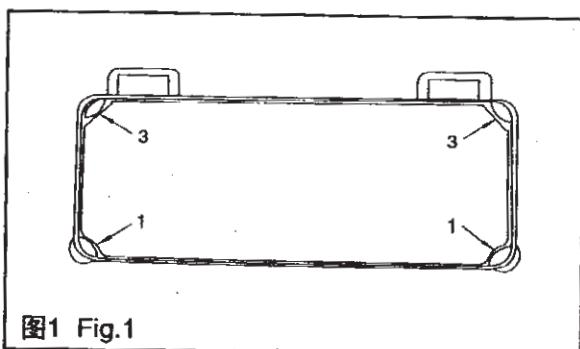
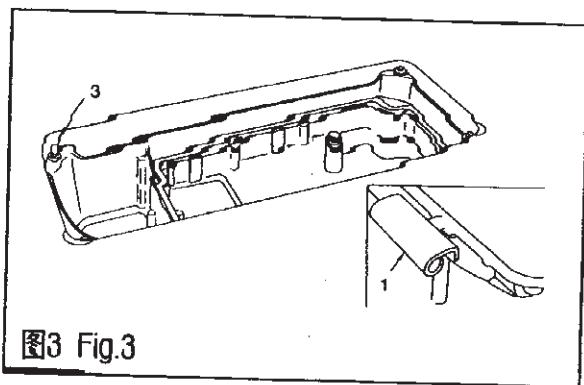

图1 Fig.1
图3 Fig.3
将两只油盘支座 1 和两只油盘座垫 3 分别装在台板凹槽的四角，用油盘座钉 2 固定之，再装上油盘4。 (图1、2)
将机头连接钩 1 插入机壳底板孔内，与台板上的机头连接钩座 2 相嵌合，再将机头放到四只角的机头座垫 3 上。 (图3、4)
(2) Fitting oil pan:
Put the oil rubber cushions(1) and oil pan felt cushions (3) separately on four corners of notch of the table, fix them with the screw of oil pan (2), then install the oil pan (4). (Fig. 1, 2)
(3) Fitting machine head:
Put the machine head connecting hooks (1) into the bed holes to engage respectively two hinges (2) stated in the table, than place the machine on the four cushions (3). (Fig. 3, 4)